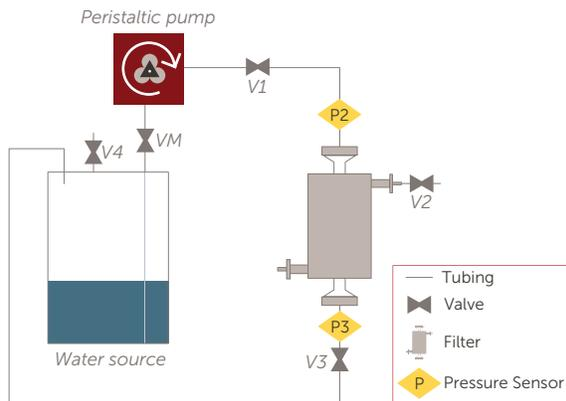

Figure 5. Example schematic of constant flow wetting systems.
1. Ensure the system is setup in a similar format to the constant flow system, shown in figure 5, and ensure all valves (VM, V1, V2, V3, and V4) are closed prior to starting test.
2. Open the main valve (VM), the inlet valve (V1), and the vent valve (V2) before starting the pump.